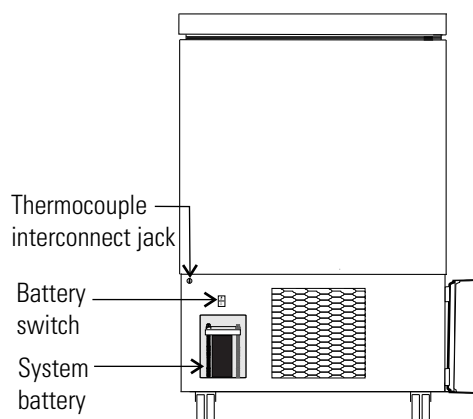

Figure 5-2. Battery and Switch location
2. Locate the battery power switch (Figure 5-2). Turn the battery power switch to the Off position (O).
3. Remove the two nuts securing the battery bracket. See Figure 5-2.
3 cu ft Models (Figure 5-2):